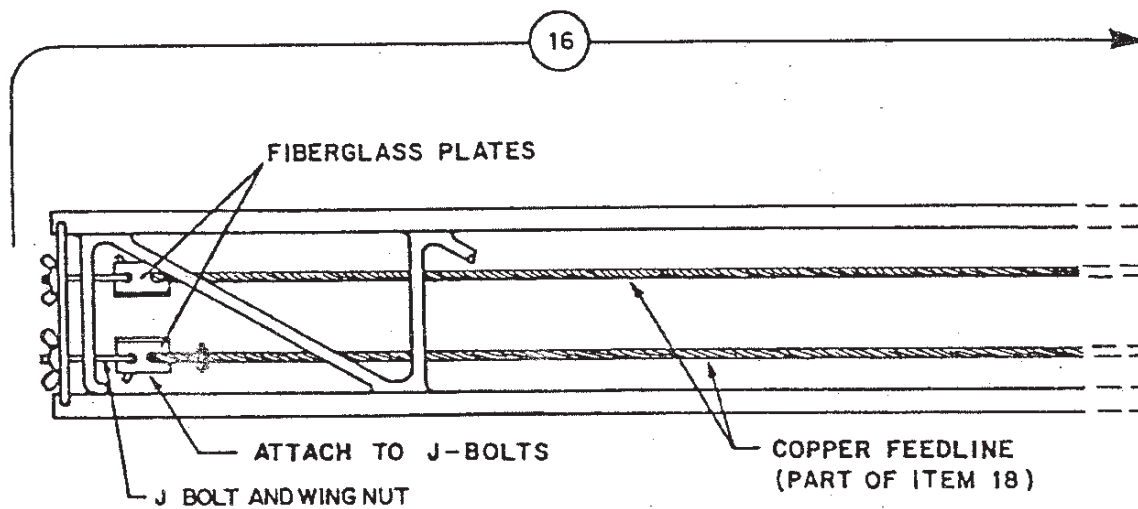

Figure 2-39
- n. Attach the end of the copper cable with the fiberglass plate to the jay bolts in the rear end of the boom triangle bracket as shown in Figure 2-39.